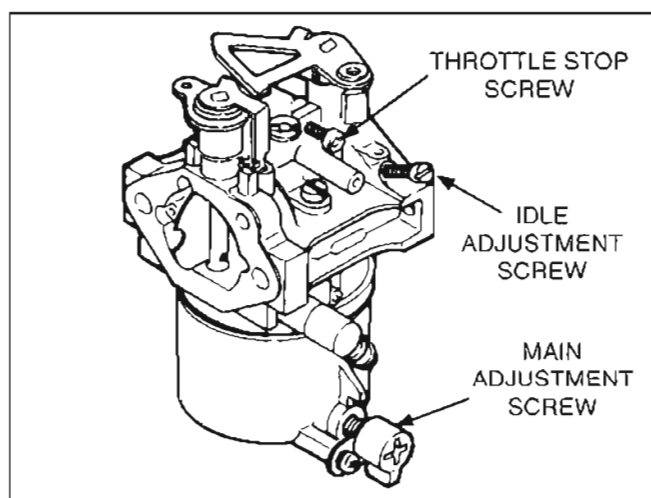

FIGURE 8-18. MIXTURE SCREW ADJUSTMENT
Start the engine and allow it to run for about 10 minutes. The location of the adjustment screws is shown in Figure 8-18. Use the following procedure:
5. Turn the governor speed adjustment screw counterclockwise until the speed is ≤ 50 Hz, so that the throttle lever on the carburetor is resting against the throttle stop screw (Figure 8-18). Adjust the stop screw to obtain a frequency of 44 to 46 Hz on 60 Hz gensets (36 to 38 Hz on 50 Hz gensets).